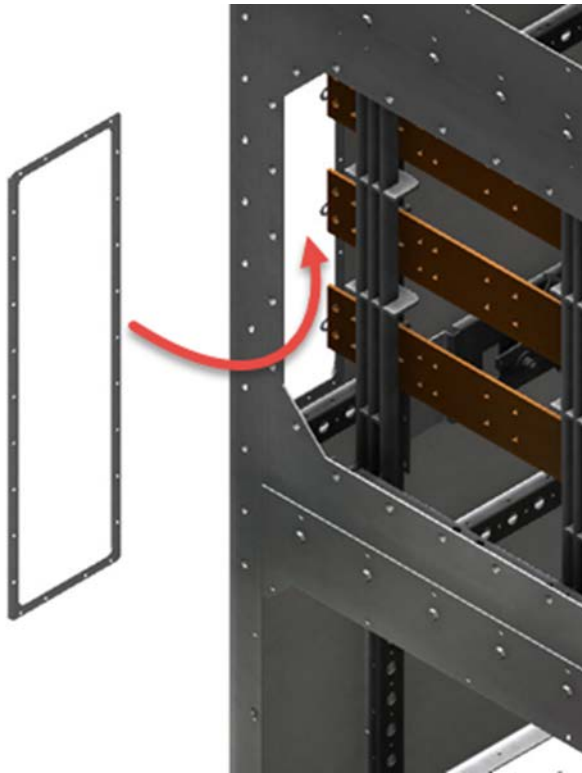

Figure 7: Insert taptite collar
1. Install the frame to frame taptite collar supplied by ABB (Figure 7). Follow the Rockwell MCC installation manual. Remove the rear access cover. Insert the collar through the access opening and place it close to the power bus access. This collar will be used to secure the taptites driven through the adjoining transition frame in later steps when the MCC is bolted to the transition frame.